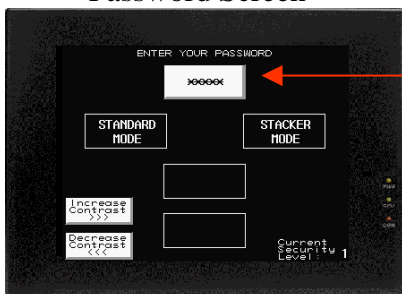

Fig 3
- 2 Press "\*\*\*\*\*" (Password Window) (fig 3)